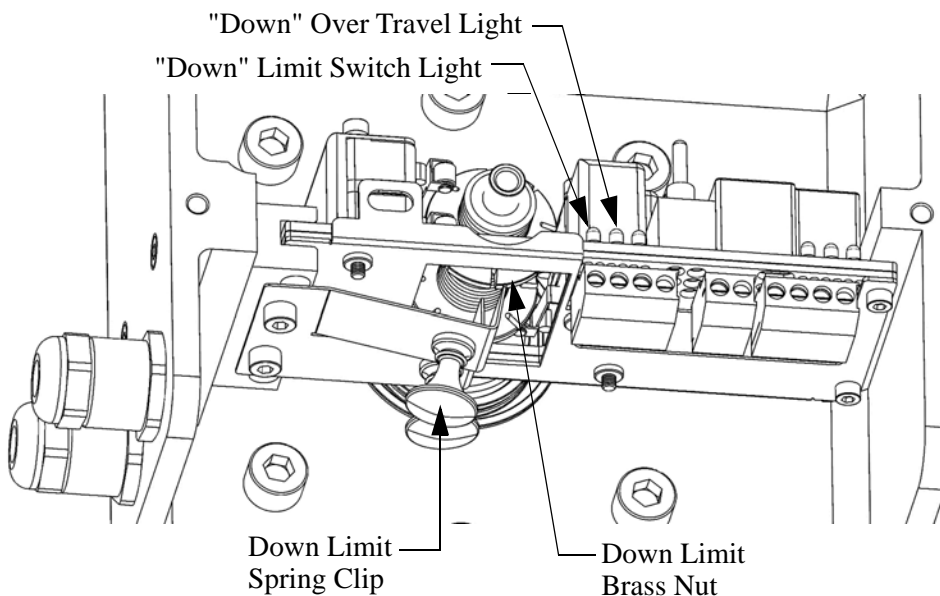

Figure 20. Down Limit Diagram
3. Pull the Spring Clip from the Down Limit Nut. Rotate the Brass Nut until the Down Limit Switch light comes on and the Switch Clicks (See Figure 20).